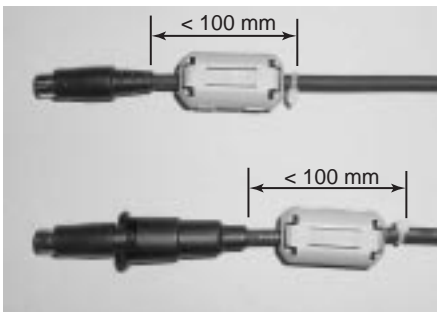

Fig.1
3. As shown in Fig.1, tie up the cable with the accompanying stopper band.